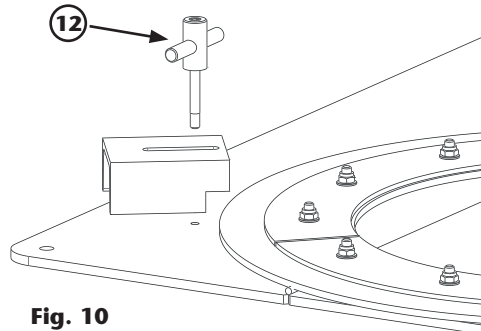

Fig. 10
5. If the elevator includes the base plate, screw the drum stops on it (12) (fig. 10).